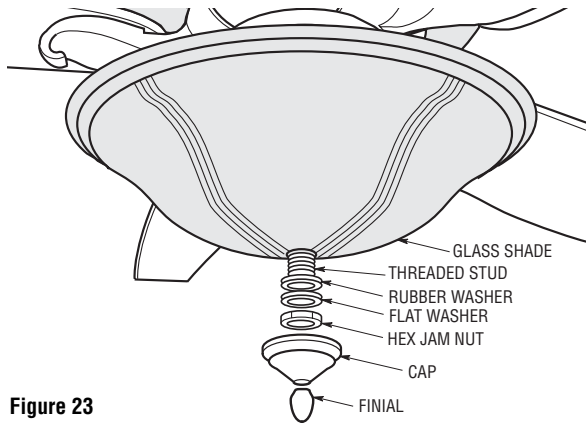

Figure 23
- 9. Install downlight glass shade and reassemble the rubber washer, flat washer, hex jam nut, cap and finial. Gently secure to avoid damage to glass shade (Figure 23).